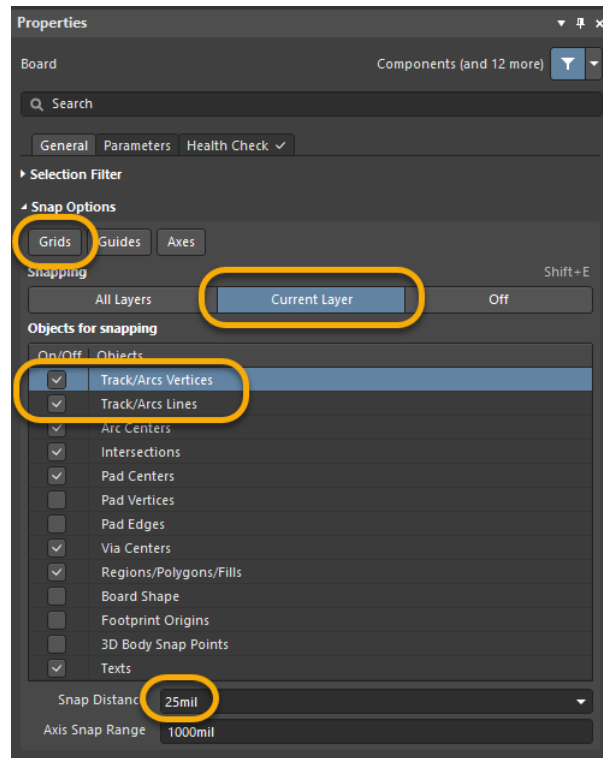

Figure 19. Snap Settings for placement of Mouse Bites
43. Use Figure 19 below to set the following settings in the *Properties* panel: